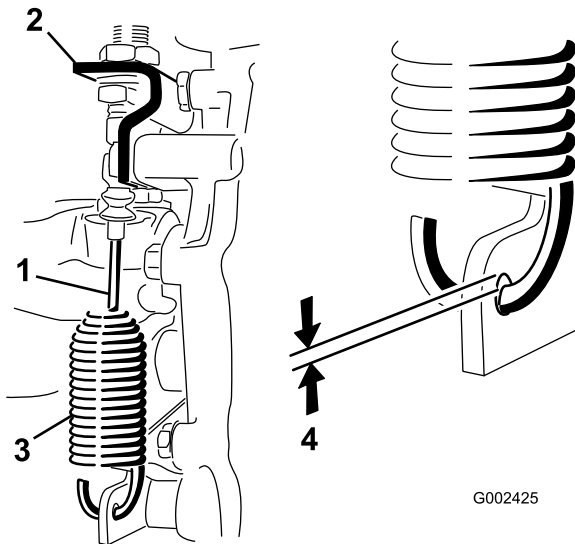

Figure 47
- Loosen the jam nuts securing the differential lock cable to the bracket on the transaxle (Figure 47).